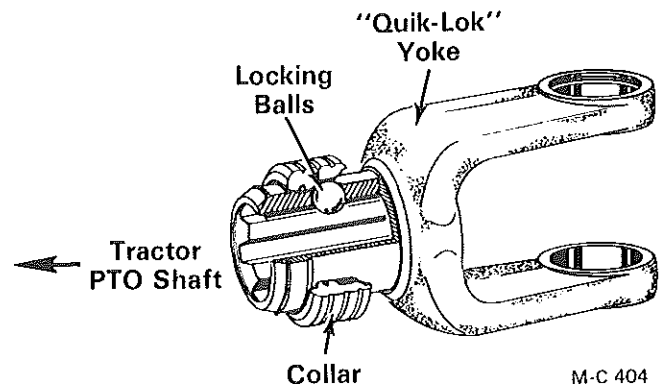

Figure 13
1. Push the collar on the "Quik-Lok" yoke forward (toward the tractor PTO shaft) to release the spring tension on the locking balls, see Figure 13.